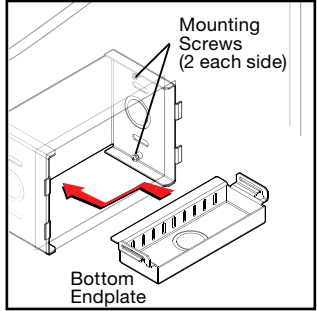

Figure 3.
10. Hold the bottom end plate at a slight angle and slide the front edge under the bottom of the U-plate until the end plate is inside the drywall (see figure 3).